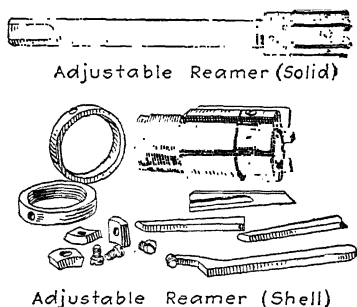

FIG. 136.
**146. Adjustable Reamers** (Fig. 136).—Probably the most efficient kind of reamer for any purpose is the adjustable-blade reamer. The best types of these reamers can be adjusted to